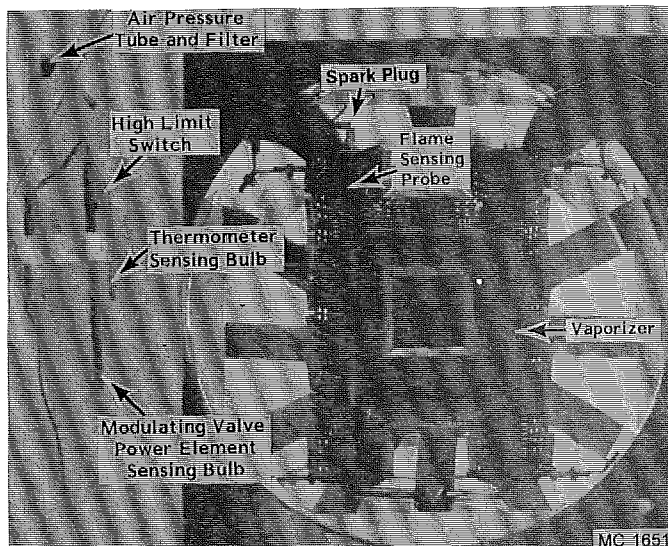

Figure 18
- Remove the Air Pressure Switch Weather Cover and then the (2) wires from the air pressure switch power terminals. Check continuity of the (2) wires. If wires are okay, remove air pressure switch from tube and filter assembly. Check to be sure that the $\frac{1}{8}$ " (3.2mm.) vent hole in the bottom of switch is open. Then check for an obstruction in the air pressure tube and filter assembly. See Figure 18. Now replace air pressure switch, (2) wires, and weather cover that were removed above.